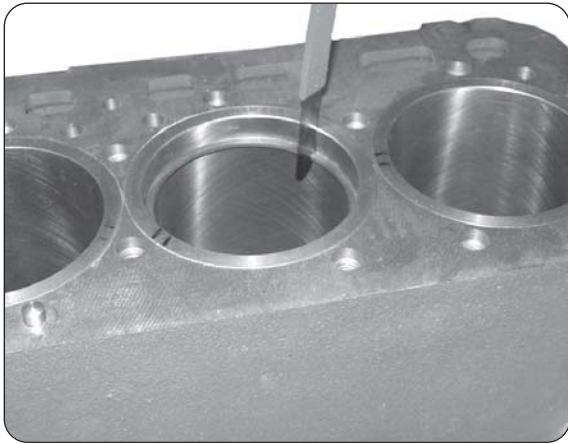

Fig. 7
- h) Insert piston ring in bore and use a piston without ring to it square in the bore. Check the ring gap (Fig. 7).
NOTE: To check piston ring gap the ring must be placed squarely in a new cylinder sleeve (Fig. 7). Replace piston ring as a set only.